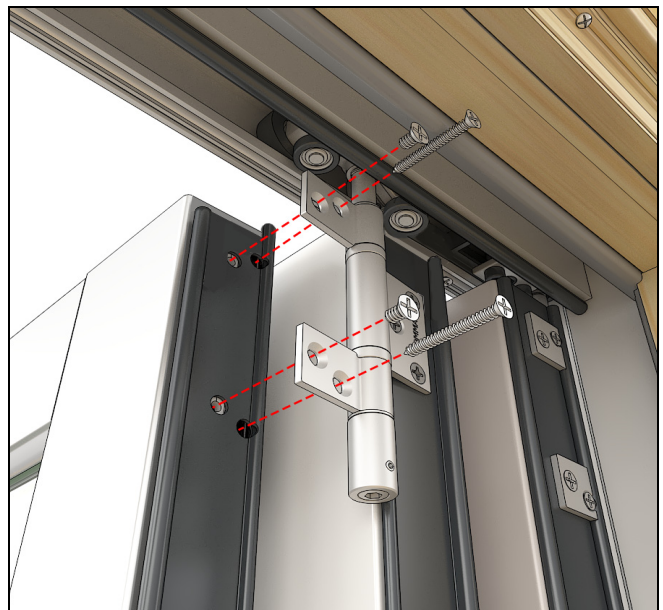
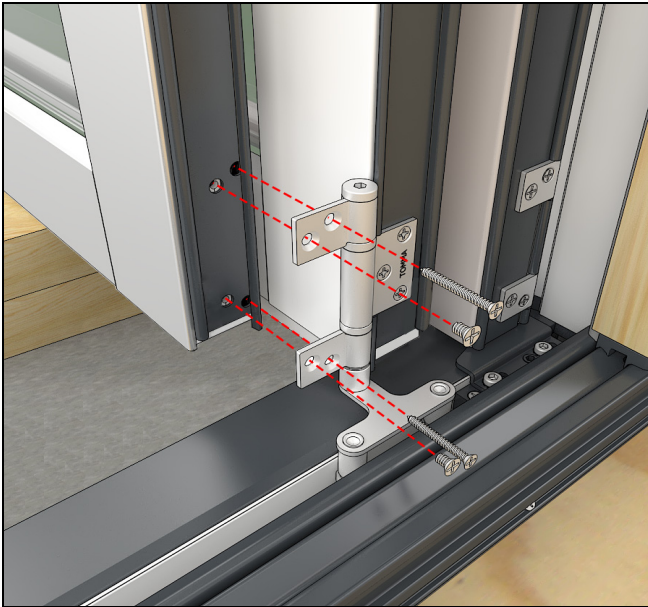

Figure 44
Figure 45
10. Locate the next panel and, using a support block, fasten to the previous panel. See Figure 44 and Figure 45.